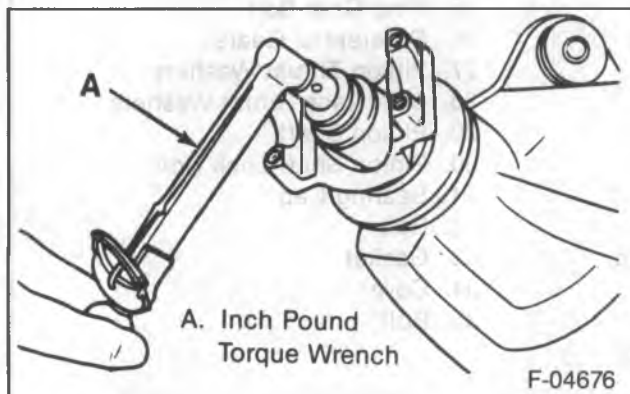

Figure 4—Checking Pinion Preload
- Drive pinion bearing preload (figure 4).